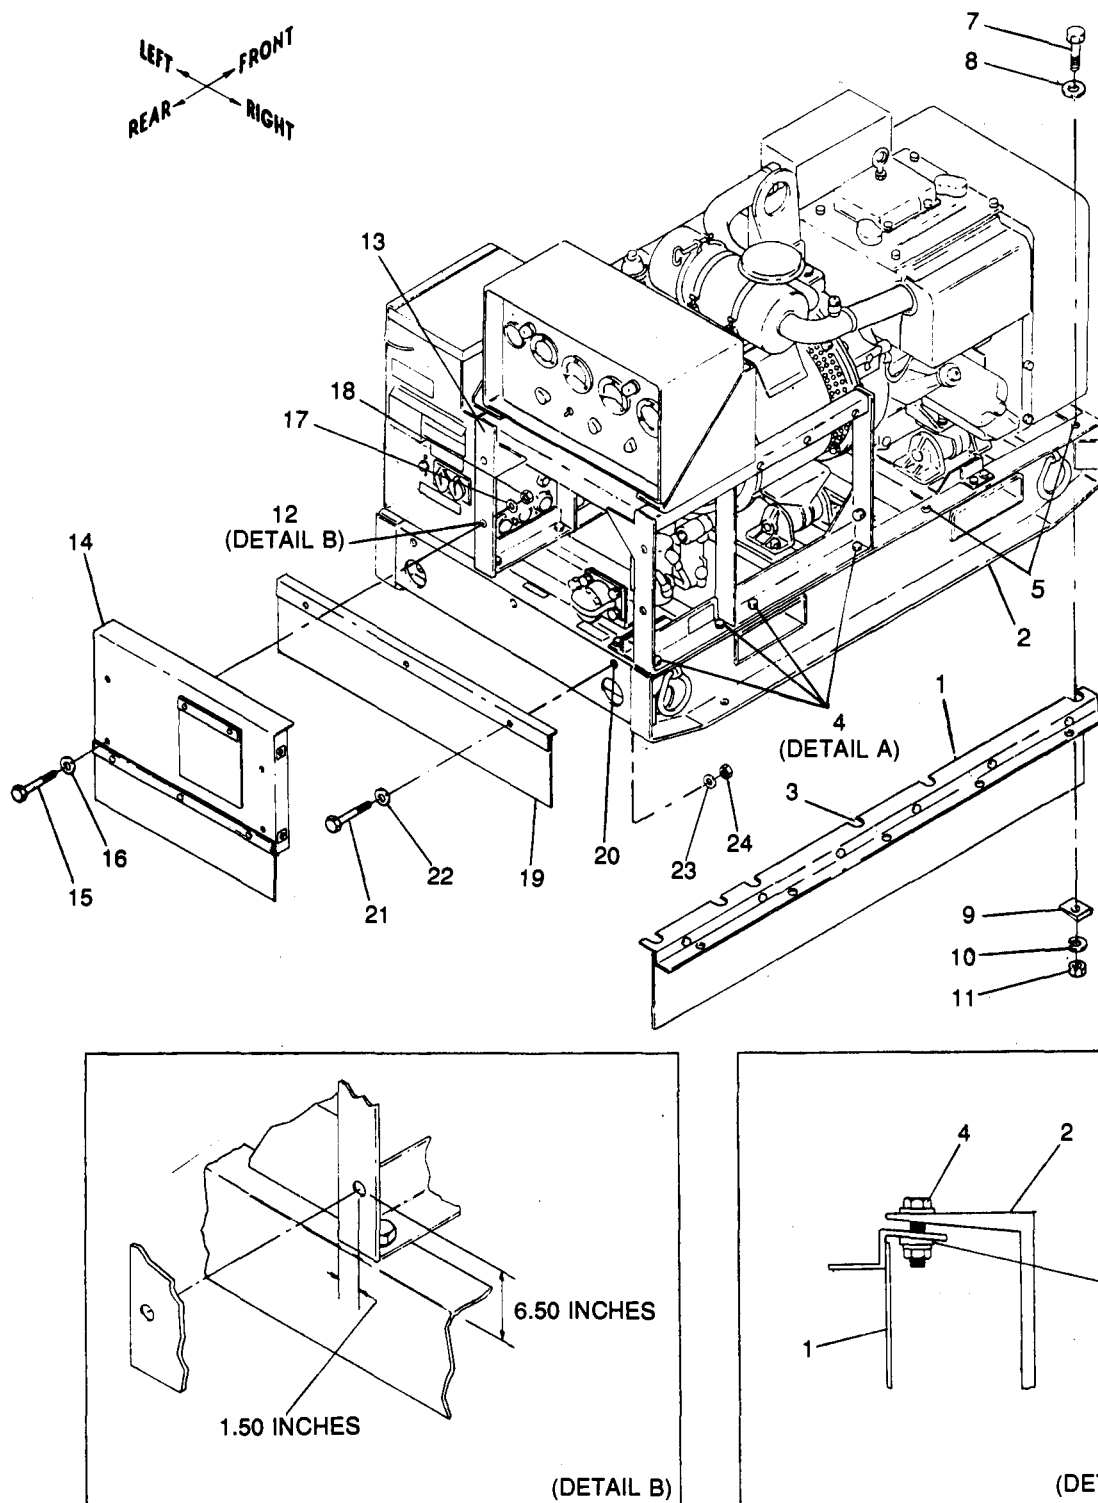

Figure 10-1. Installation of Right Support, Rear Panel, and Rear Flap Assemblies
(1) Refer to Operator and Organizational Maintenance Manual paragraph 4-17, and remove shroud and blower housing.
(2) Refer to figure 10-1 and locate right support assembly (1) on skid (2). Align slots (3) in support assembly (1) with existing screw heads (4) and using support assembly (1) as template, mark the two additional mounting holes (5).
(3) Drill two 7/16 inch holes (5) into skid (2) for right support assembly (1).
(4) Cut a 50 in. length of adhesive backed teflon tape (listed in Table 10-1, item 1). Apply adhesive backed teflon tape to a clean right support assembly top surface (surface that mounts against underside of skid frame). Use hand pressure to remove air bubbles. Clear teflon tape away from screw slots.
(5) Loosen four existing screws (4) and slide right support assembly (1) between skid (2) and bevel washers (6) as shown in figure 10-1, detail A.
(6) Install two each screws (7), washers (8), bevel washers (9), lockwashers (10), and nuts (11) (as listed in Table 10-1, item 1) in the two additional mounting holes (5).
(7) Torque four existing screws (4) and the two added screws (7) to 26 \pm 2 ft-lbs dry.
(8) Refer to Operator and Organizational Maintenance Manual, paragraph 4-17, and replace shroud and blower housing.
(1) Refer to figure 10-1 detail B and drill one 5/16 inch guide hole (12) in generator set control cubicle support frame (13) at location shown.
(2) Using rear panel assembly (14) as template, align drilled guide hole (12) with bottom left rear panel assembly hole and mark location of three remaining holes in support frame (13). Drill three 5/16 inch holes.
(3) Cut a 11 3/4 in. Length of adhesive backed teflon tape (listed in Table 10-1, item 3). Apply adhesive backed teflon tape to clean right side surface of rear panel assembly (14) (surface with 2 captive nuts). Use hand pressure to remove air bubbles. Clear tape from captive nut openings.
(4) Refer to figure 10-1 to install rear panel assembly (14) to generator set control cubicle support frame (13) with four screws (15), eight washers (16 and 17) and four locknuts (18) (as listed in Table 10-1, item 3).
(5) Torque screws (15) to 16 \pm 2 ft-lbs dry.
(1) Refer to figure 10-1 and using rear flap assembly (19) as template, center assembly on skid resting flap assembly angle on top of skid (2). Mark mounting hole locations and drill three 5/16 inch holes (20) into skid (2).
(2) Install rear flap assembly (19) to skid (2) with three screws (21), six washers (22 and 23) and three locknuts (24) (as listed in table 10-1, item 4.)
(3) Torque screws (21) to 16 \pm 2 ft-lbs dry.